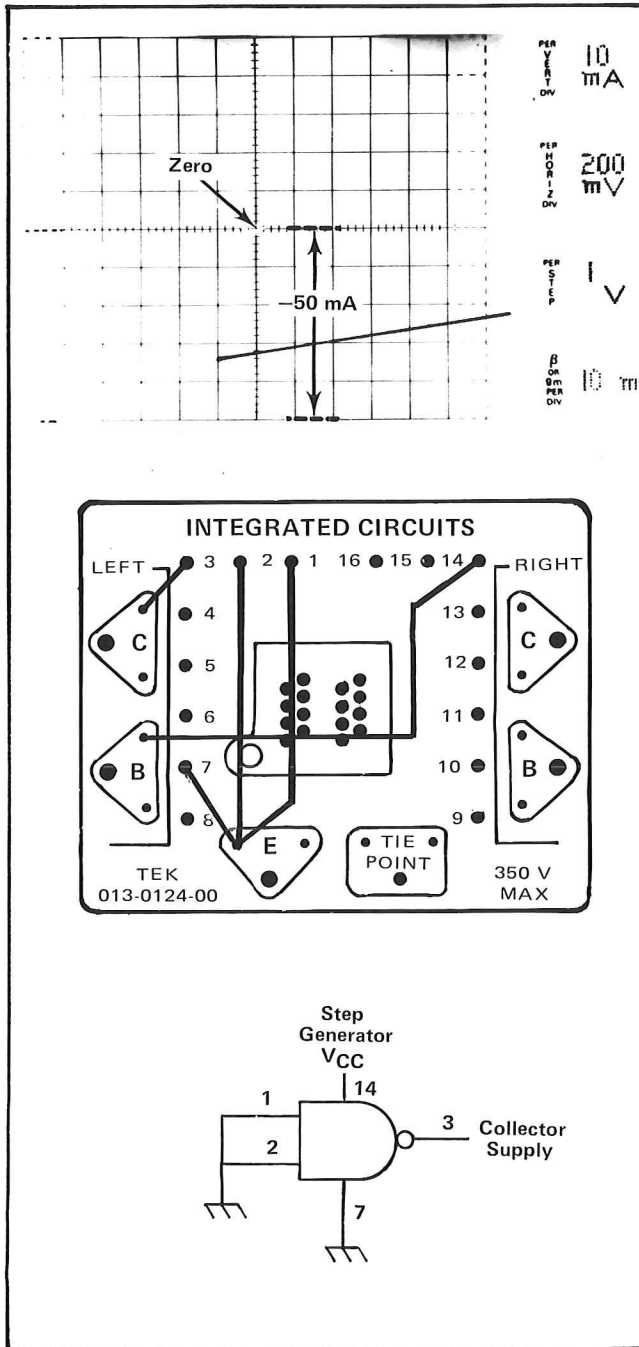

Fig. 9. Setup and Type 576 display for measuring  $I_{OS}$ .
b. Connect the patch wires to the IC adapter as shown in Fig. 9.2
c. Set the LEFT-OFF-RIGHT switch to LEFT and turn the VARIABLE COLLECTOR SUPPLY control clockwise until  $V_{out}$  is 0 volts (see the display in Fig. 9).